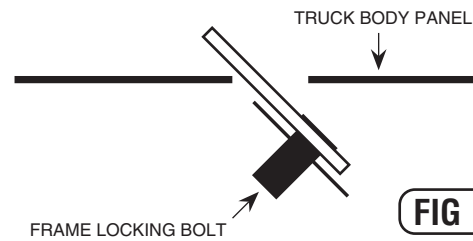

FIG 1
STEP 2 INSTALL FRAME LOCKING BOLTS INTO THE OBLONG HOLES IN THE FRONT FRAME HOLES. **(FIG 1 & 2)**